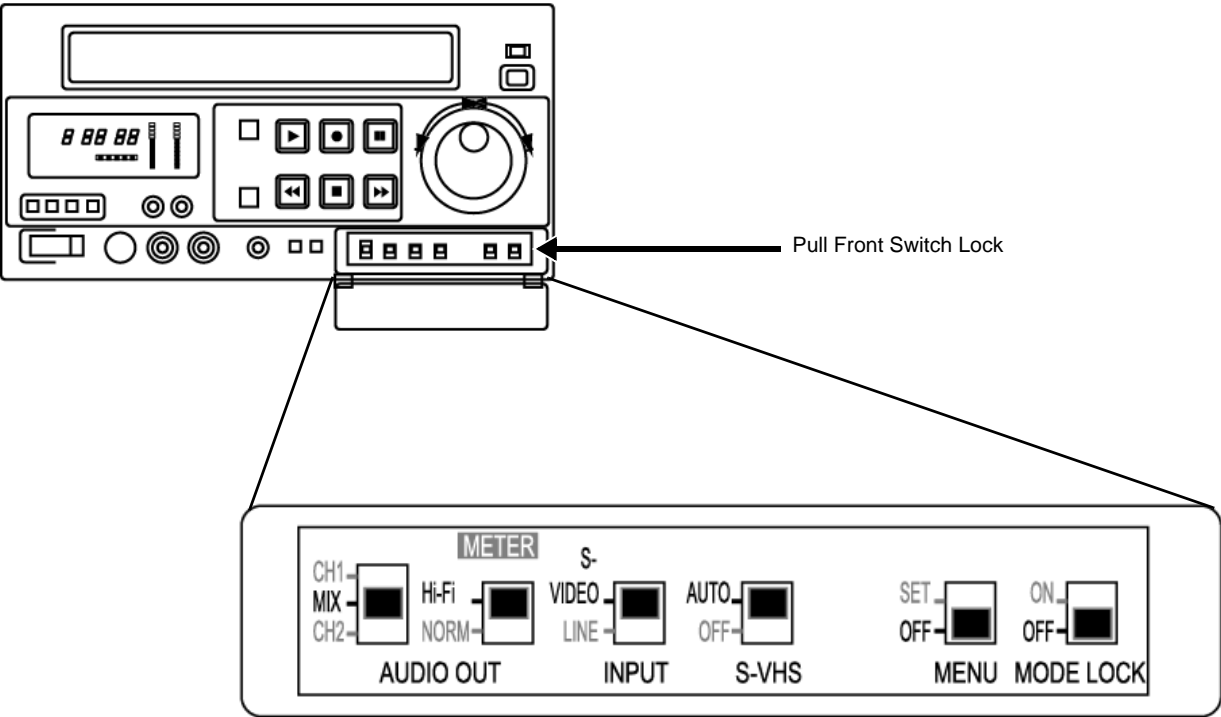

Figure 8-105 VCR Switches Setting
- 5) Verify that the switches on the VCR are as shown in Figure 8-105 "VCR Switches Setting" on page 8-122. If necessary, adjust accordingly.